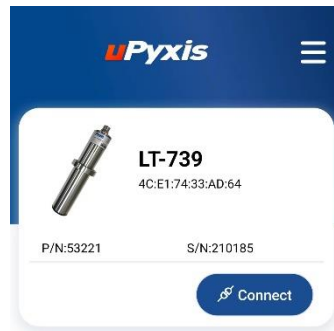

Figure 9.
3. If the connection is successful, the LT-73X Series and its Serial Number (SN) will be displayed (Figure 9).